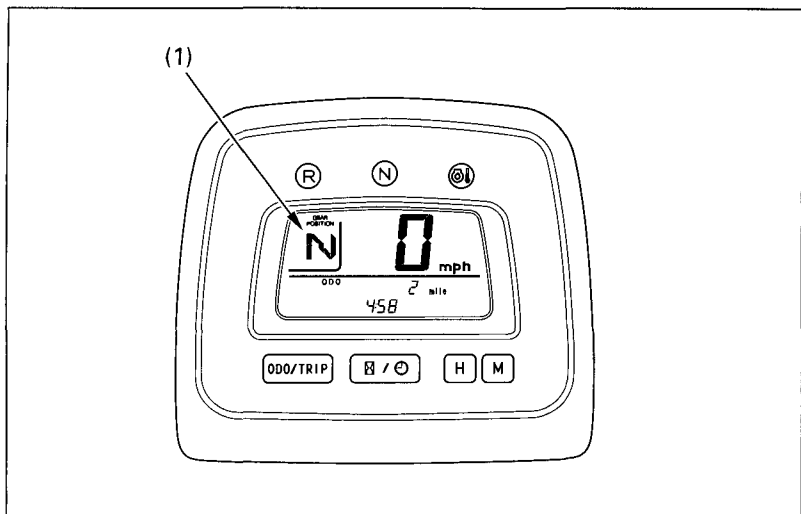

Fig. 2-16 (1) Gear position indicator
The gear position indicator (1) (Fig. 2-16) shows the gear position when the ignition switch is in the ON ( I ) position and the engine is running.